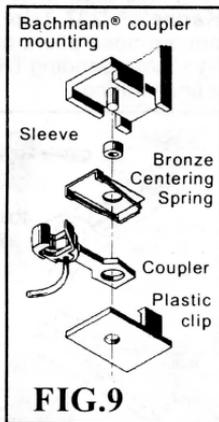

FIG.9
2. Place plastic clip over assembly and snap in place, see Fig.9.